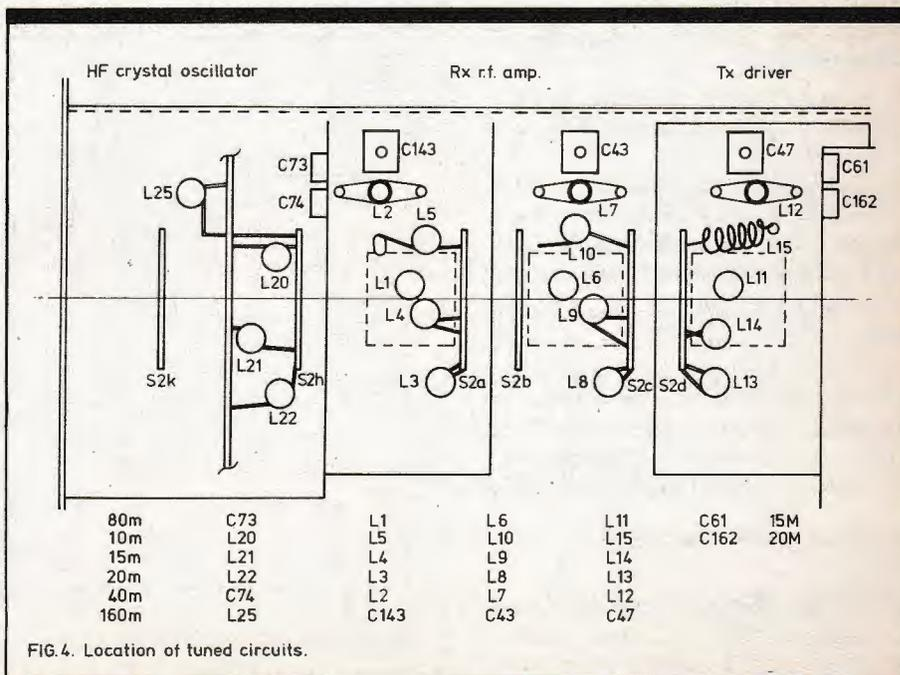
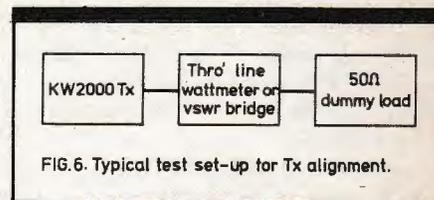

FIG. 4. Location of tuned circuits.
FIG. 6. Typical test set-up for Tx alignment.
4. **Table 1** gives the sequence of adjustments to be followed, and **Fig. 4** shows the position of the various tuned circuits. Always tune to the first peak arrived at by screwing the tuning core into the coil, ie. nearest the top of the coil former for the upper core; nearest the lower edge of the former for lower cores.
The rig should be set up as shown in **Fig. 6** and switched to TUNE. The MIC GAIN should then be set to give a PA current of 50mA or less, and the PA tuned for maximum output into the dummy load. The PA grid coil is then adjusted for maximum PA current, reducing the MIC GAIN as necessary to keep the PA current below 100mA. After this, the neutralisation is checked, and the PA grid circuit readjusted if it has been necessary to alter the neutralisation setting, since this will affect the tuning of the grid circuit. Neutralisation adjustment is not necessary on 7, 8.5, and 1.8MHz. **Table 2** gives the sequence of adjustments, and **Fig. 4** shows the position of the components concerned.
- Adjust as in **Table 3** with KW2000 in receive mode. Fig. 4 shows the coil locations.